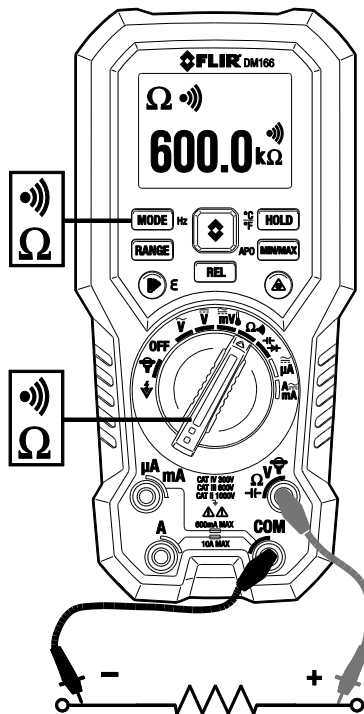

Fig. 6-4 Resistance and Continuity Measurements
1. Refer to **Fig. 6-4**. Set the function switch to the resistance position.
1. Refer to **Fig. 6-4**. Set the function switch to the continuity position.